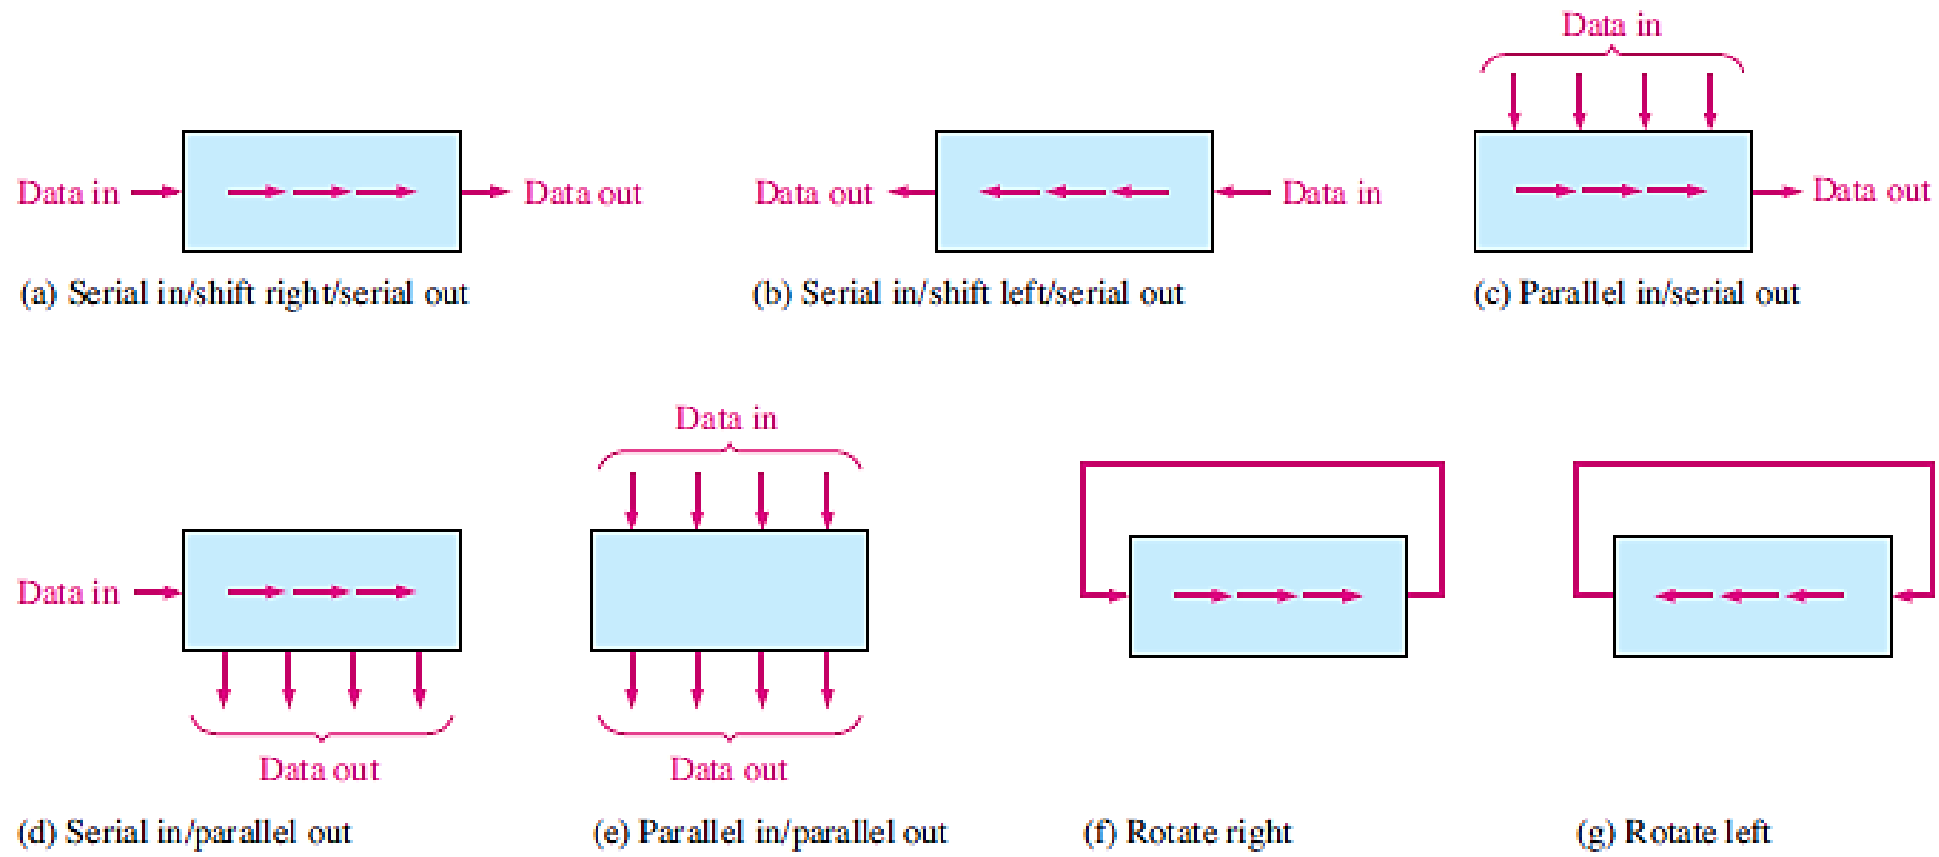

FIGURE 2 Basic data movement in shift registers. (Four bits are used for illustration. The bits move in the direction of the arrows.)
- Figure 2 illustrates the types of data movement in shift registers. The block represents any arbitrary 4-bit register, and the arrows indicate the direction of data movement.